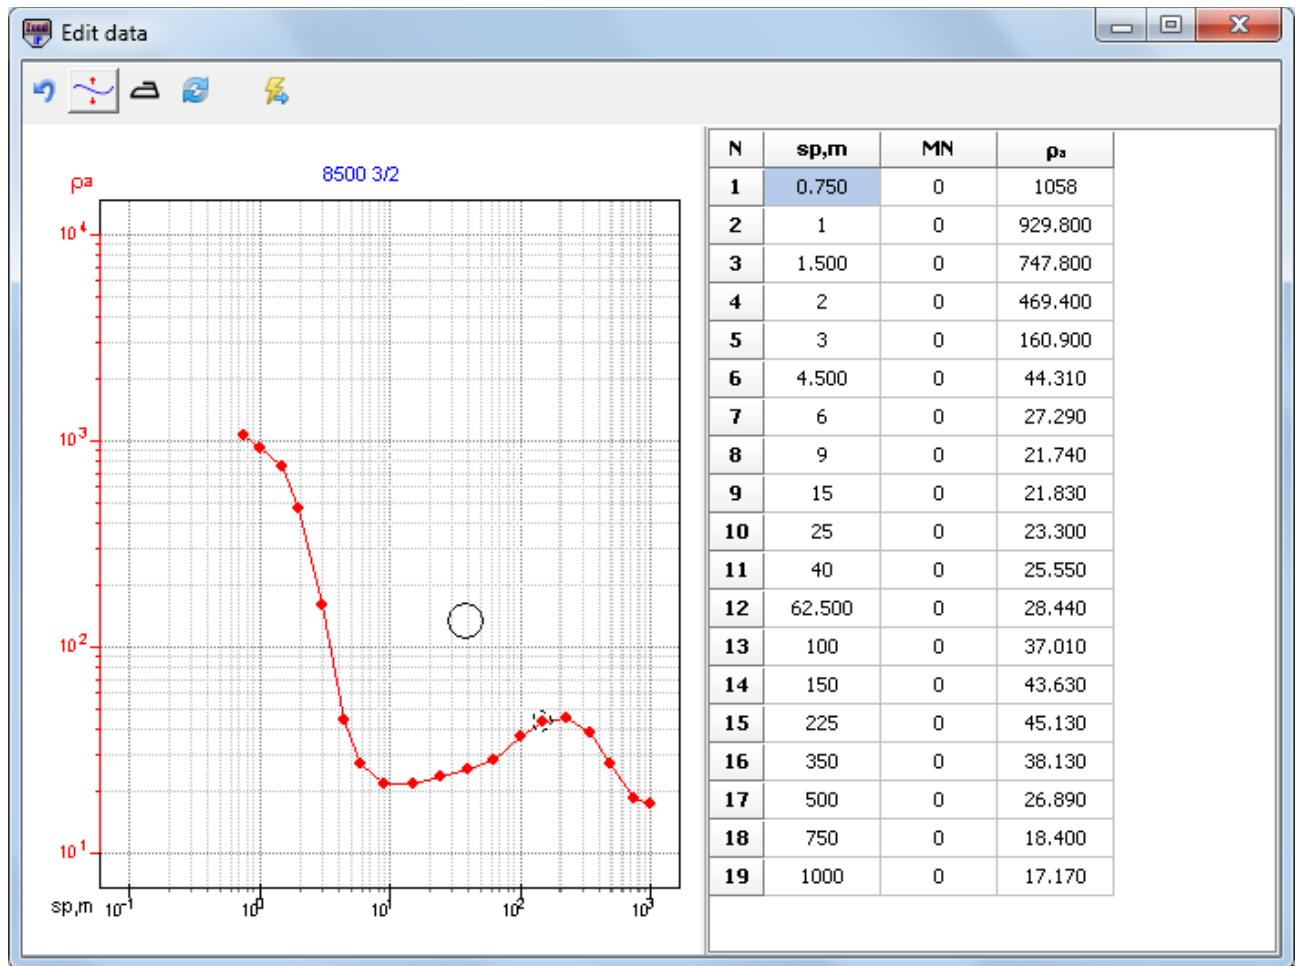

Fig. 22 Sounding curves setup window **Edit data**
**Edit data** option is used to edit sounding curves manually. When this option is selected dialog window **Edit data** appears (fig.22).